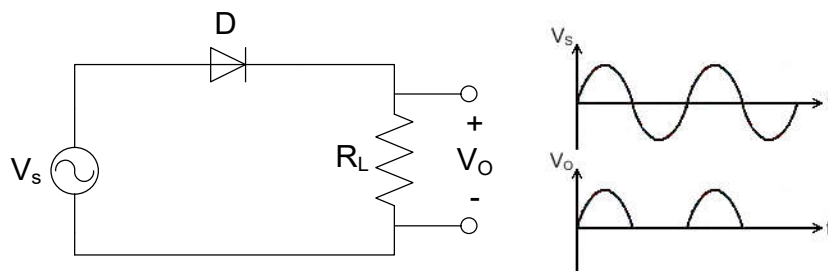

Figure 2.1: Half Wave Rectifier.
**Half - Wave Rectifier:** Half-wave rectifier can be built by using a single diode. The circuit diagram and the wave shapes of the input and output voltage of half wave rectifier are shown below (figure 2.1) -